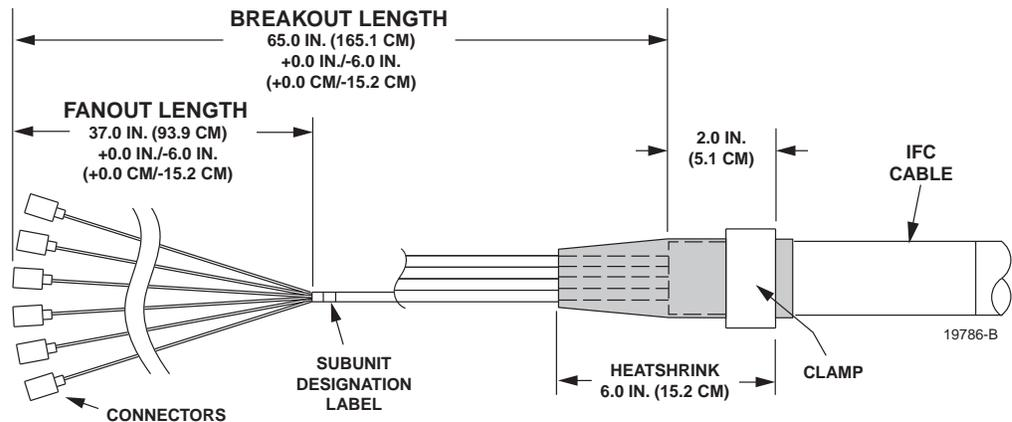
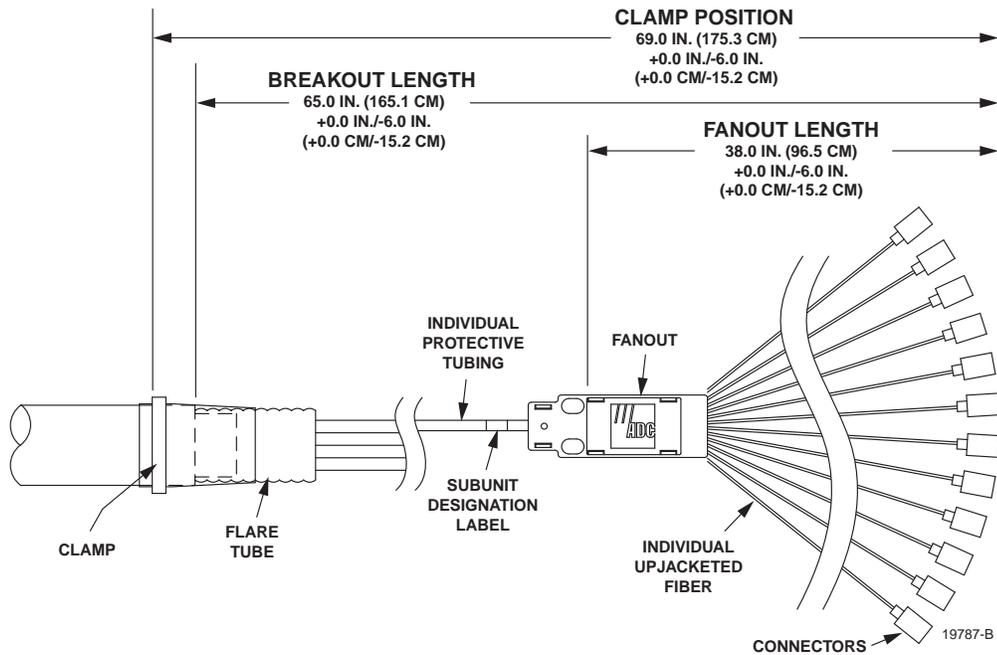

Figure 20. Breakout Dimensions for Stranded Cable Routed to Standard Termination Panel
Figure 21. Breakout Cable Dimensions for Ribbon Cable Routed to Standard Termination Panel
1. Break out the cable according to the dimensions provided in Figure 20 (stranded cable) or Figure 21 (ribbon cable). For ribbon cable, install protective tubing, fanouts, and upjackets in the locations shown.
- ▶ **Note:** Position the cable clamp on the cable at the point indicated in the cable breakout diagrams. For ribbon cable, refer to Figure 20. For stranded cable, refer to Figure 21.